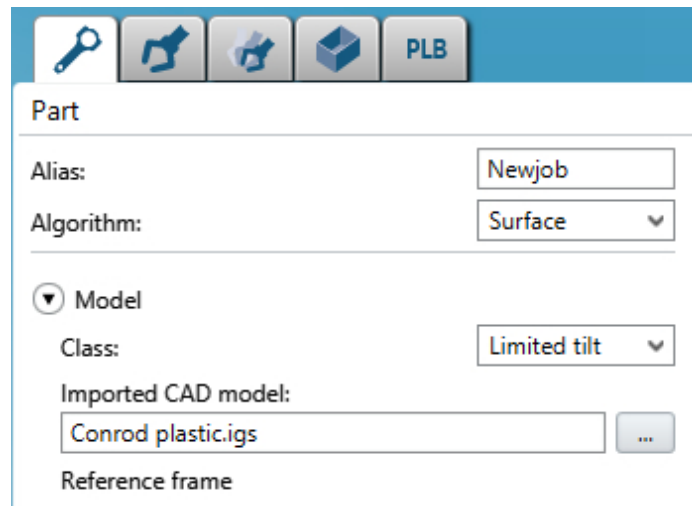

Figure 51: Configuring a new part
3. Use the drop-down list to assign the part to a class (see figure 51, page 62).
4. Enter the path of the corresponding CAD model (see figure 51, page 62).